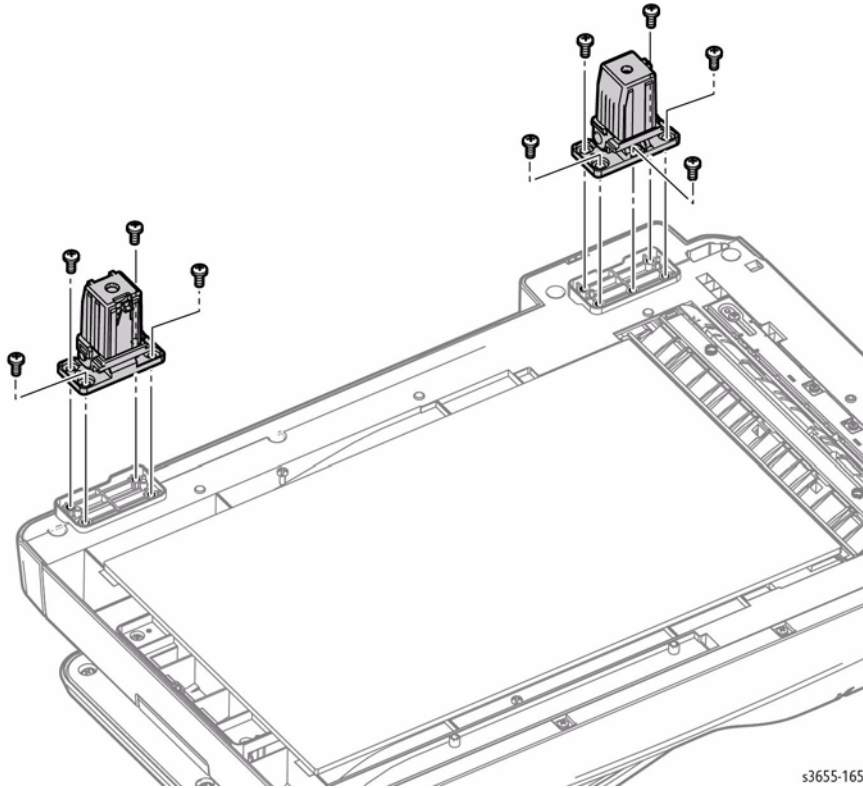

Figure 1 Remove the DADF Hinges
2. Refer to Figure 1 to locate and remove 4 screws (silver, tapping, 8mm) to remove the Right Hinge or 5 screws (silver, tapping, 8mm) to remove the Left Hinge